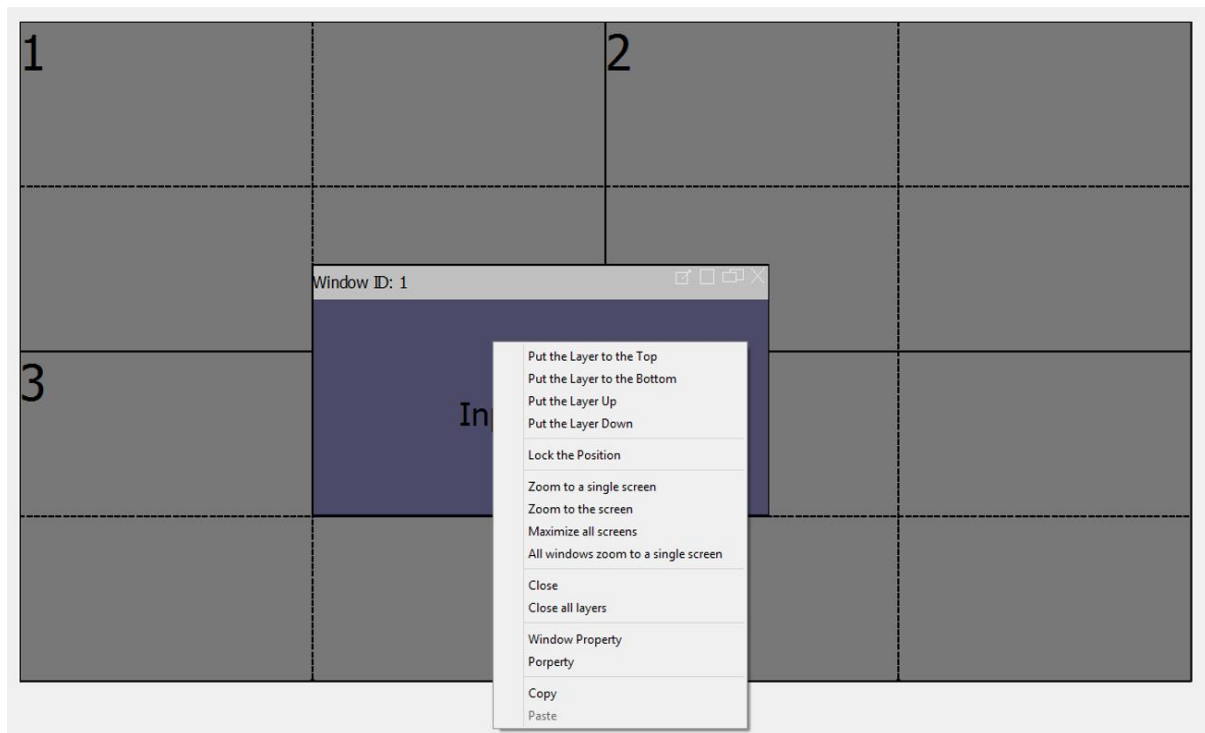
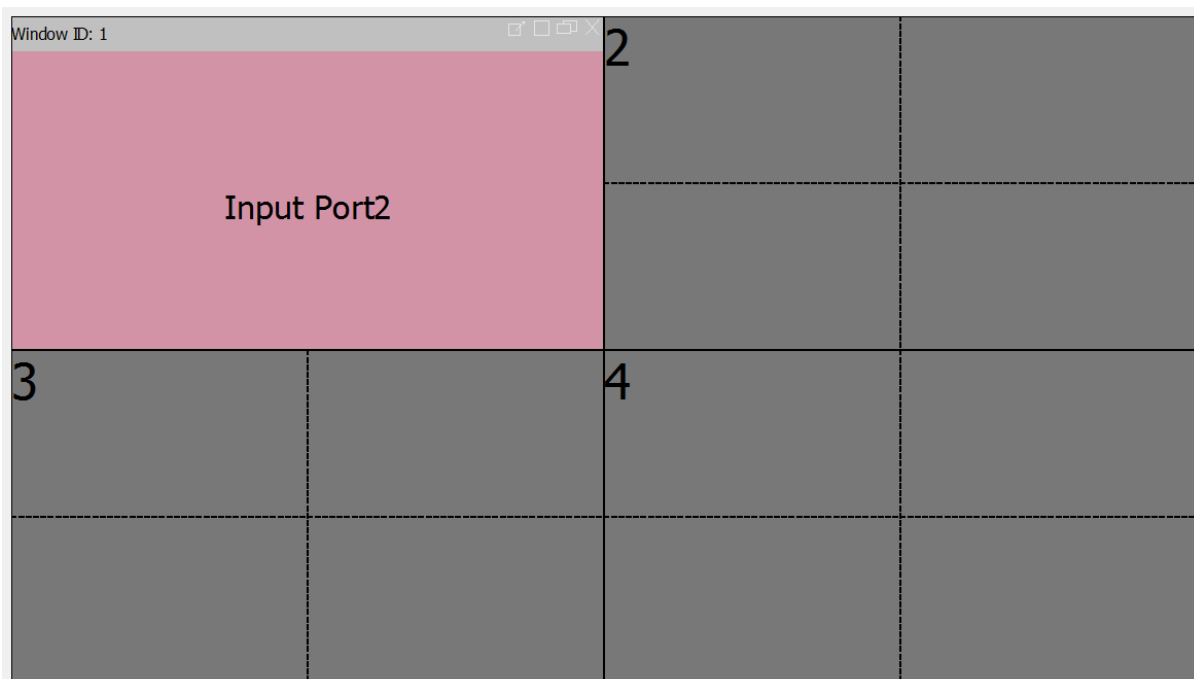

Figure 38: Window property list
Figure 40: Image zoomed to single screen
- Right clicking on any input on the video wall will bring up the list of options as shown above in figure 38
- The next option zoom to a single screen will put the image full screen on only one screen of your video wall configuration. The screen the image fills is determined by the position of the top left corner of the image, designated as pixel 0,0 in x,y co-ordinate terms. When used on the image location from figure 38, pixel 0,0 is in screen 1 so when zoomed to a single screen the image will fill screen 1 as shown below in figure 40